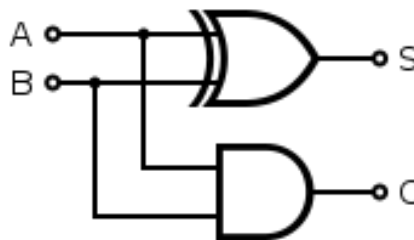

Figure 1.1
Figure 1.1 shows the gate-level structure of the Half Adder (HA) module, which incorporates an XOR gate for S and an AND gate for C. This design is described in file *ha.vhd*.